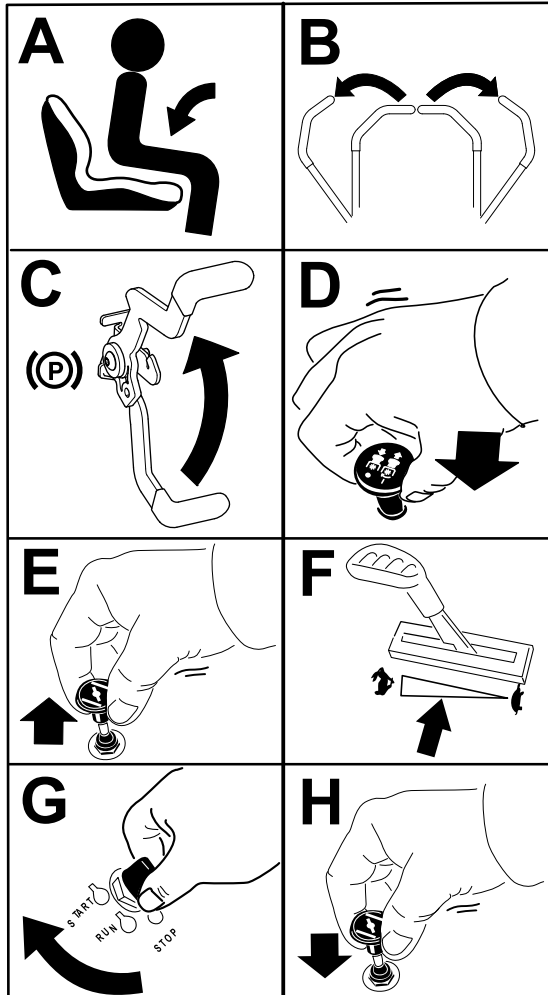

Figure 21
1. Disengage the blades by moving the blade-control switch to the OFF position (Figure 21).